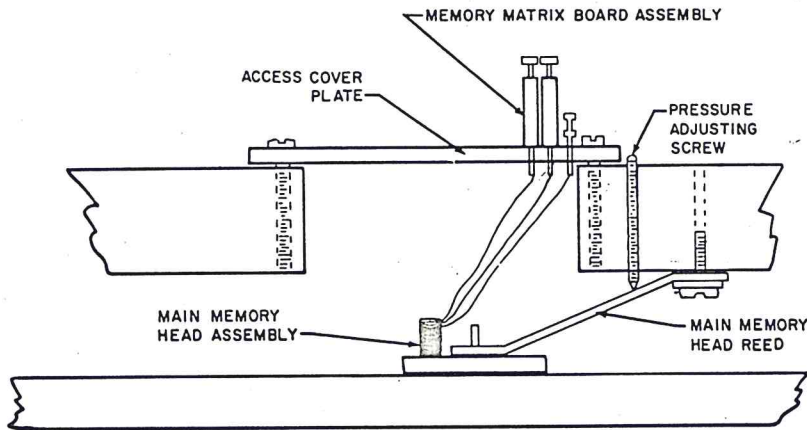

FIGURE 4-12 MAIN MEMORY HEAD REPLACEMENT
Step 5 Turn the head pressure adjusting screw clockwise until the tip of the reed just comes in contact with the shoe, on the head. See Figure 4-12.